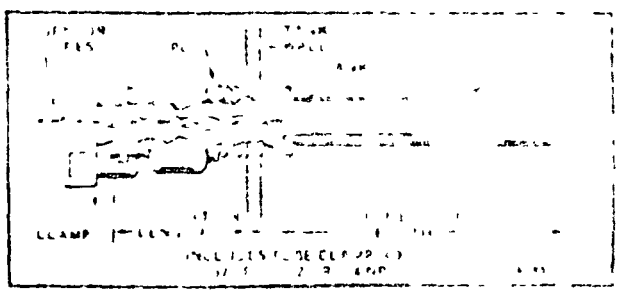

FIG 1-TANK SENSOR INSERTED IN IMMERSION WELL
Indicator Light (see Fig 1) for on or off operation
Freeze Protection (see Fig 1) for protection of the sensor
Temperature Sensor (see Fig 1) for protection of the sensor
Set of 100 (146) (see Fig 1) for protection of the sensor
1. Drain system fluid to a point below the sensor fitting (Refer to Fig. 1)